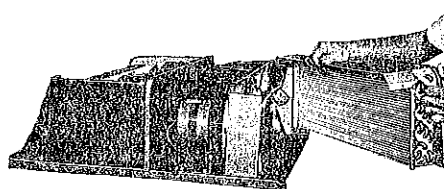

FIGURE 13
4. Remove screws holding condenser coil in place and pull back out of the way, see Figure 13.